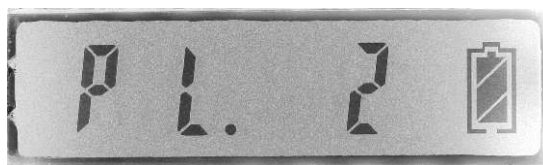

Fig 9
- Touch the CH/ON key slightly to select the edited parameter of PL (refer to Fig 9), then use the SELECT key to specify the proper RF output Power version.